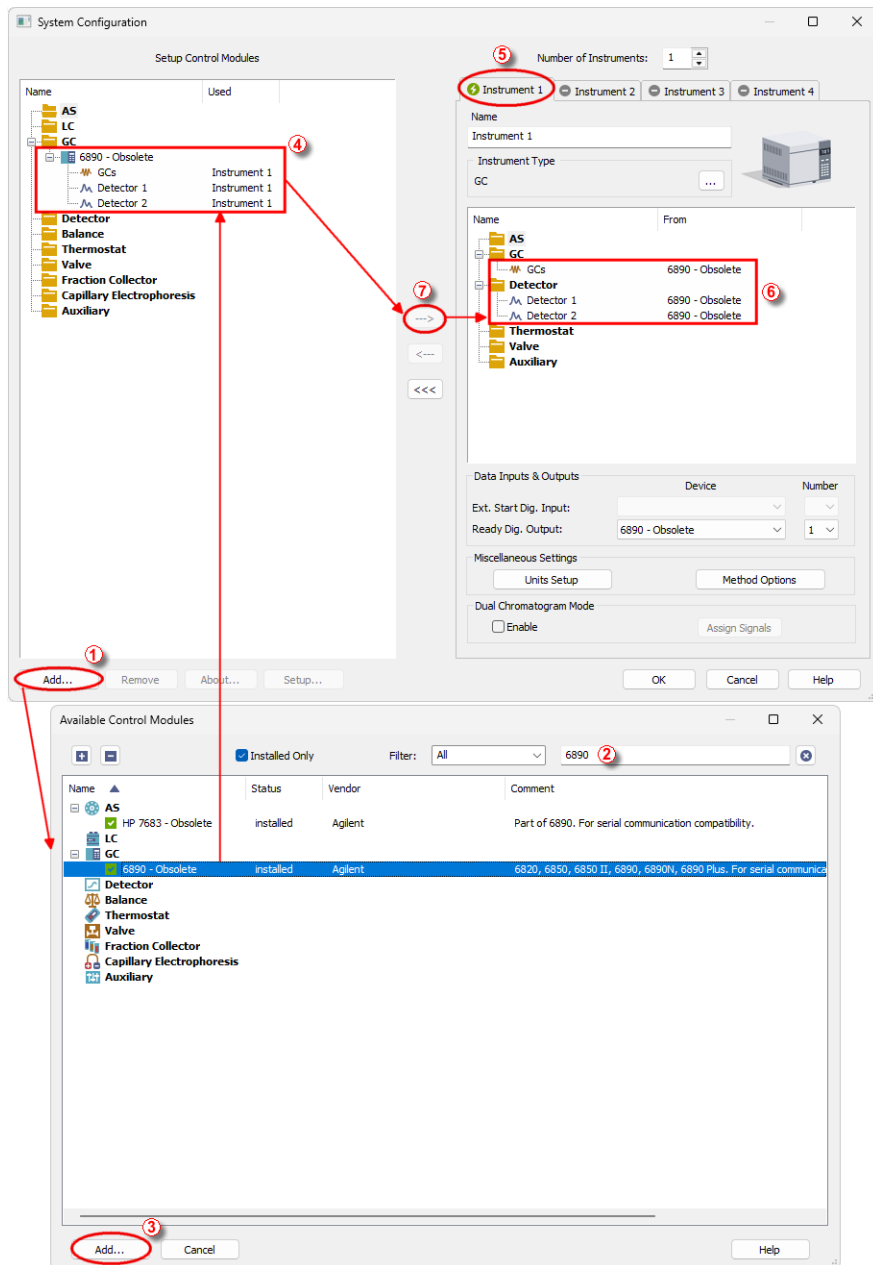

Fig. 3: How to add Agilent 6890
- Press the **Add** button ① (see **Fig. 3** on pg. 8.) to invoke the **Available Control Modules** dialog.
- You can specify the searching filter ② to simplify the finding of the driver.